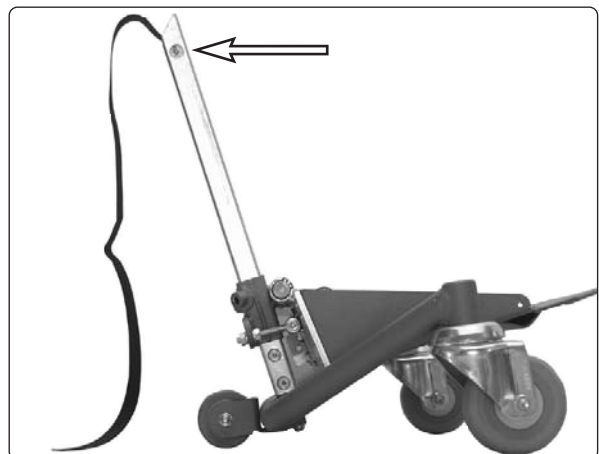

Fig. 96. The leg rest strap's rear bracket.
4. Remove the strap from the leg rest by unscrewing and removing the screw, see Fig. 96.